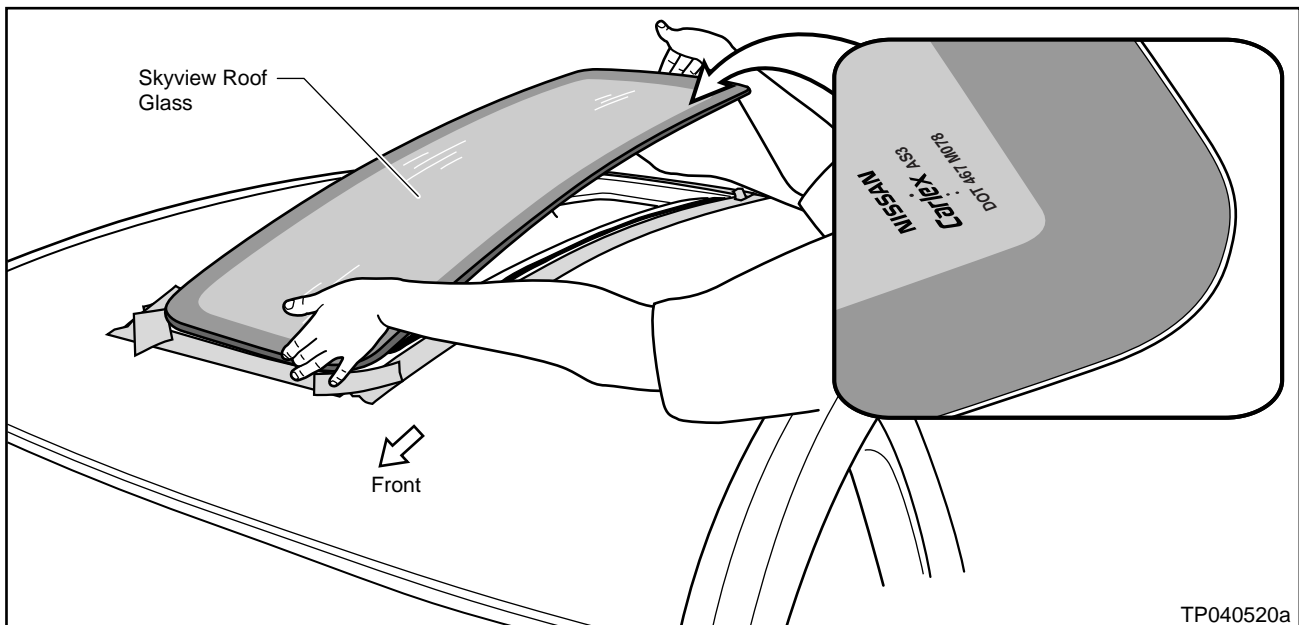

Figure 11
- Make sure the “NISSAN” logo is positioned towards the driver’s side rear of the vehicle, as shown in Figure 11.
- The “NISSAN” logo on the glass goes towards the driver’s side rear of the vehicle (see Figure 11).